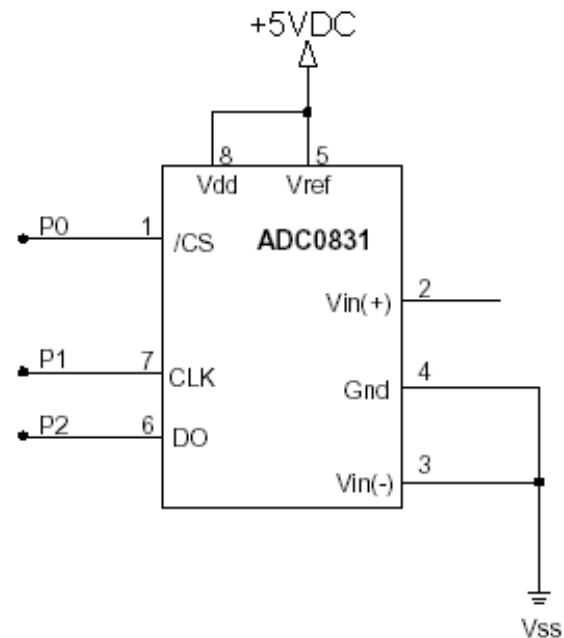

Figure 3
1. ADC Circuit - Figure 3, 4, 5, 6 & 7 shows the schematic for this experiment. This is a fairly simple circuit to build, so let's try it without the breadboard example. Hopefully you're getting the hang of the list of connections described by a schematic. Remember, when working with the connections to an IC, use the index mark on the chip along with the pin map to figure out the pin numbers.